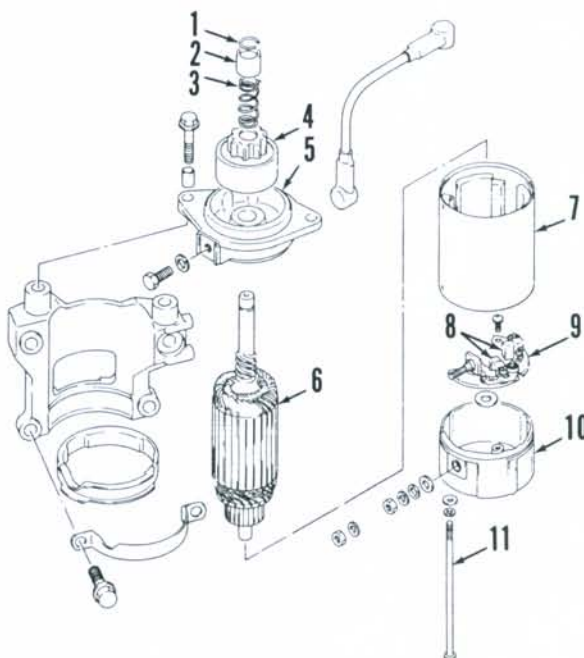

Fig. SZ11-59—Exploded view of electric starter assembly.
Refer to Fig. SZ11-59 for exploded view of electric starter assembly used on models so equipped. Disassembly is evident after inspection of unit and referral to exploded view. Standard commutator outside diameter is 30 mm (1.18 in.). Renew armature (6) if commutator is worn to less than 29 mm (1.14 in.). Standard undercut between commutator segments is 0.5-0.8 mm (0.020-0.031 in.) with a minimum allowable undercut of 0.2 mm (0.008 in.). Renew brushes (8) if worn to 9 mm (0.354 in.) or less. During reassembly, make sure upper and lower alignment marks on frame (7) align with notches in end frames (5 and 10). Tighten through-bolts (11) to 15-20 N·m (11-15 ft.-lbs.). Bench test starter prior to installing on power head.